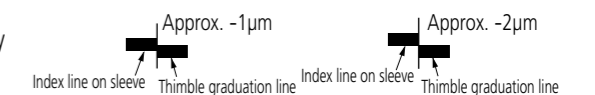

Fig. 5
3. The width of the graduation lines represent approximately 2µm to aid in reading to the nearest 1µm. (Fig. 5)